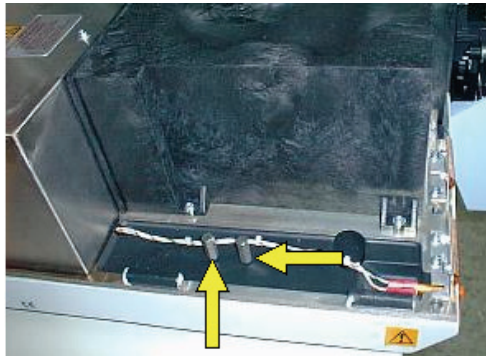

Figure 133 Shipping clamp screws storage positions
5. Remove the two shipping clamp screws from their storage positions on the left-hand side of the LS 55, as shown in Figure 133.